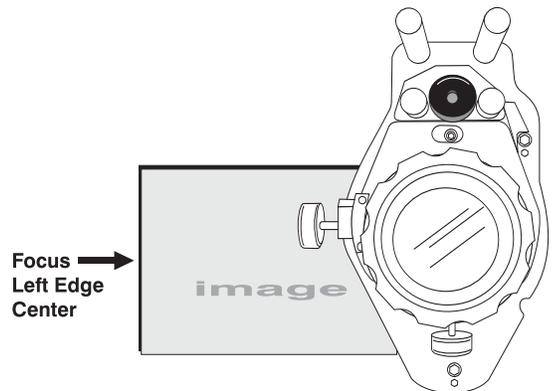

Figure 2.28. Adjust Focus at Left Edge
1. Adjust focus at the far left center edge of the image (Figure 2.28). If possible, reduce image size for easier image analysis.